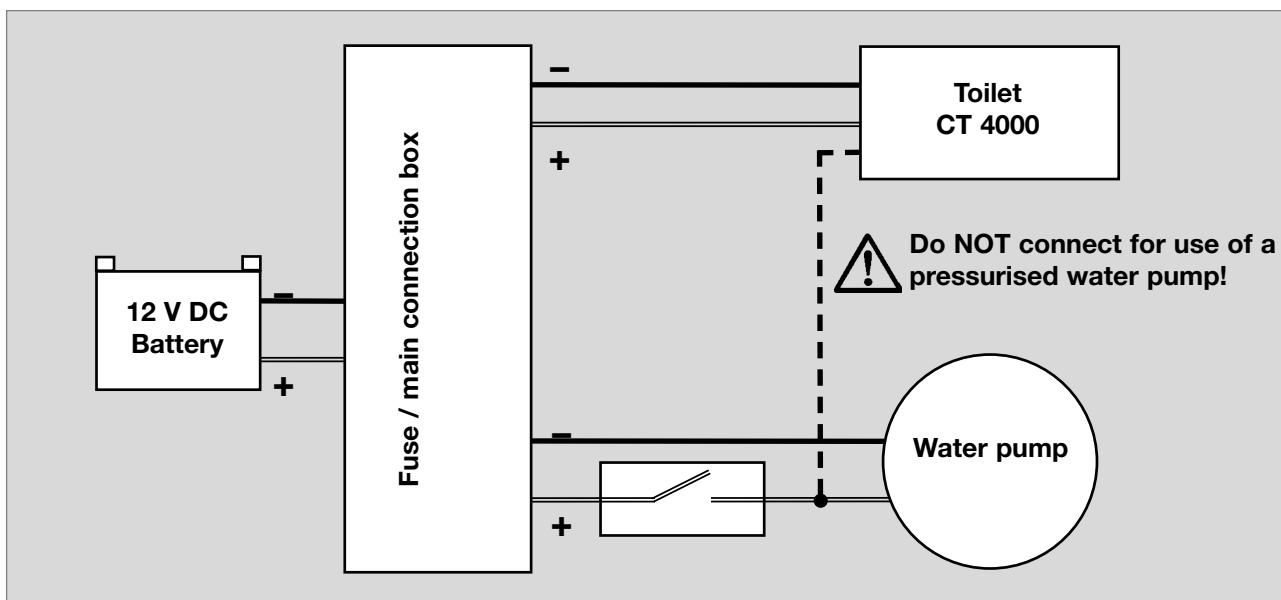

Fig. 31
- Connect the toilet to a suitable power supply via the main connection block of the vehicle (Fig. 31).